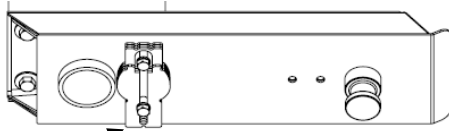

Figure 10
1. Remove (2) 3/4" Lock-Out bolts and hardware from the rear of the pin-box (figure 10).
2. Remove the universal wedge from it's storage location by removing (2) 5/8-11 X 1 3/4" bolts and conical washers.